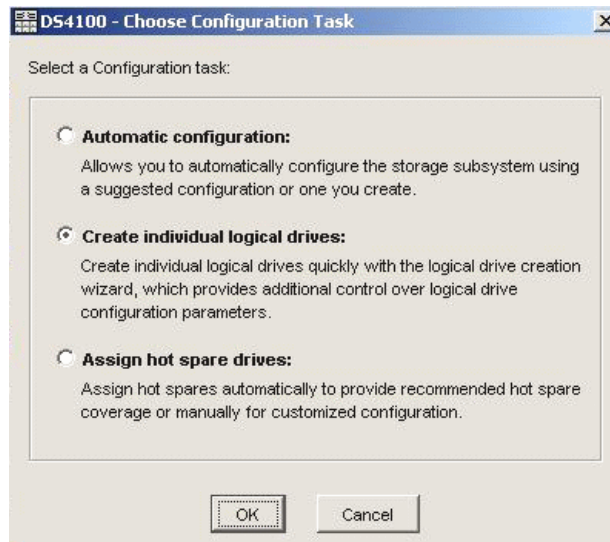

Figure 9-45 Cancel out to get out of configuration
14. Review the information in the window and click **OK**. You will see a window similar to Figure 9-45.